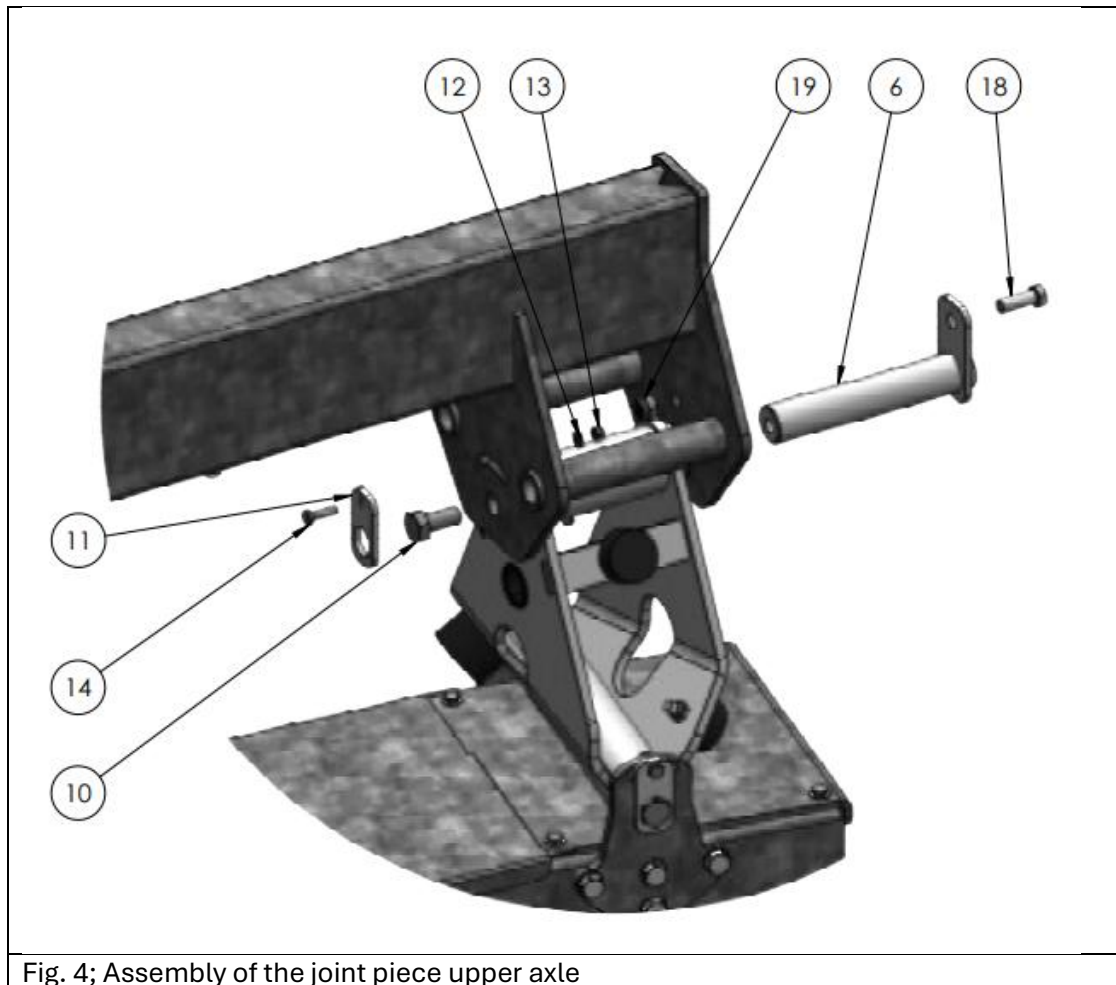

Fig. 4; Assembly of the joint piece upper axle
1. Dismantle the upper axle (Fig. 4 - item 6) from the joint piece.
5. Push the upper axle (Fig. 4 - item 6) through the bearing in the suspension arm and the joint piece and mount it.
6. Secure the axle with the M14 fastening screw (Fig. 4 - item 10).
7. Lock the axle against rotation with the screw (Fig. 4 - item 18) and selflocking nut (Fig. 4 - item 19).
8. Secure the M14 fastening screw against loosening with the locking plate (Fig. 4 - item 11), screw (Fig. 4 - item 11), washer (Fig. 4 - item 12) and self-locking nut (Fig. 4 - item 19).